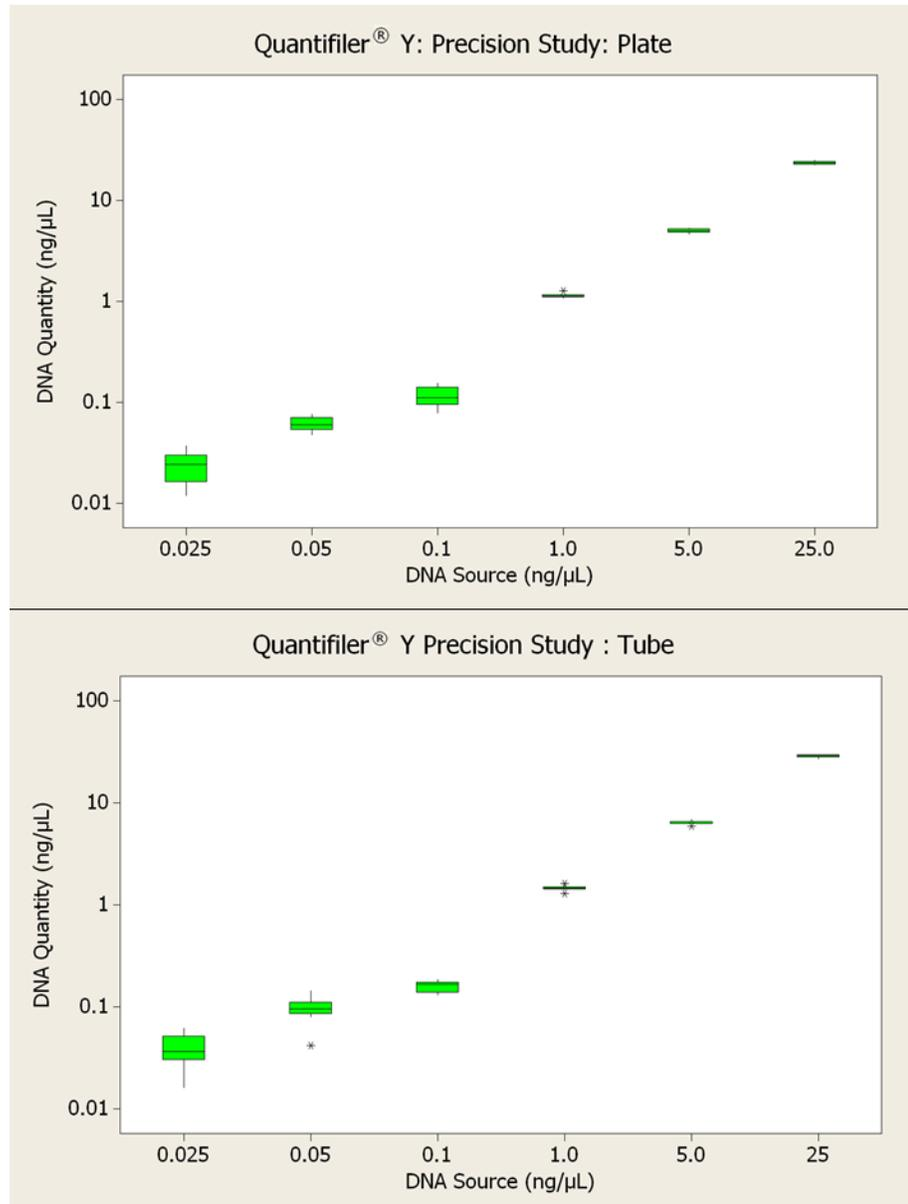

Figure 25 Precision study to verify Quantifiler® Y Human Male kit script; plate (top) and tube (bottom) (n=12).
**Quantifiler® Y Human Male kit results** Figure 25 on page 111 (top) shows a box and whisker plot of the average DNA concentrations for extracted DNA samples transferred from a 96-well plate. Figure 25 (bottom) shows the same for samples transferred from microcentrifuge tubes. Table 19 on page 113 shows average concentration and standard deviation results.